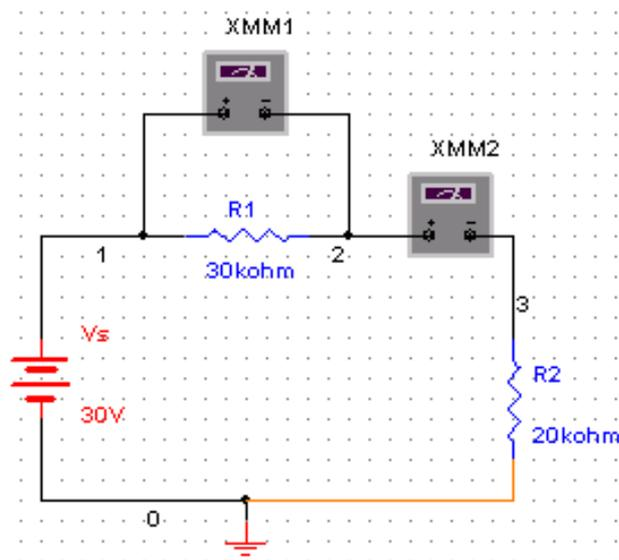

Figure. 16: **Multimeter** connection for current measurement
1. Place a second **Multimeter** in the workspace as we did in Step C. Remove the connection between  $R_1$  and  $R_2$ . Connect the '+' terminal of the **Multimeter** towards  $R_1$  and the '-' terminal towards  $R_2$  as shown in Fig. 16.